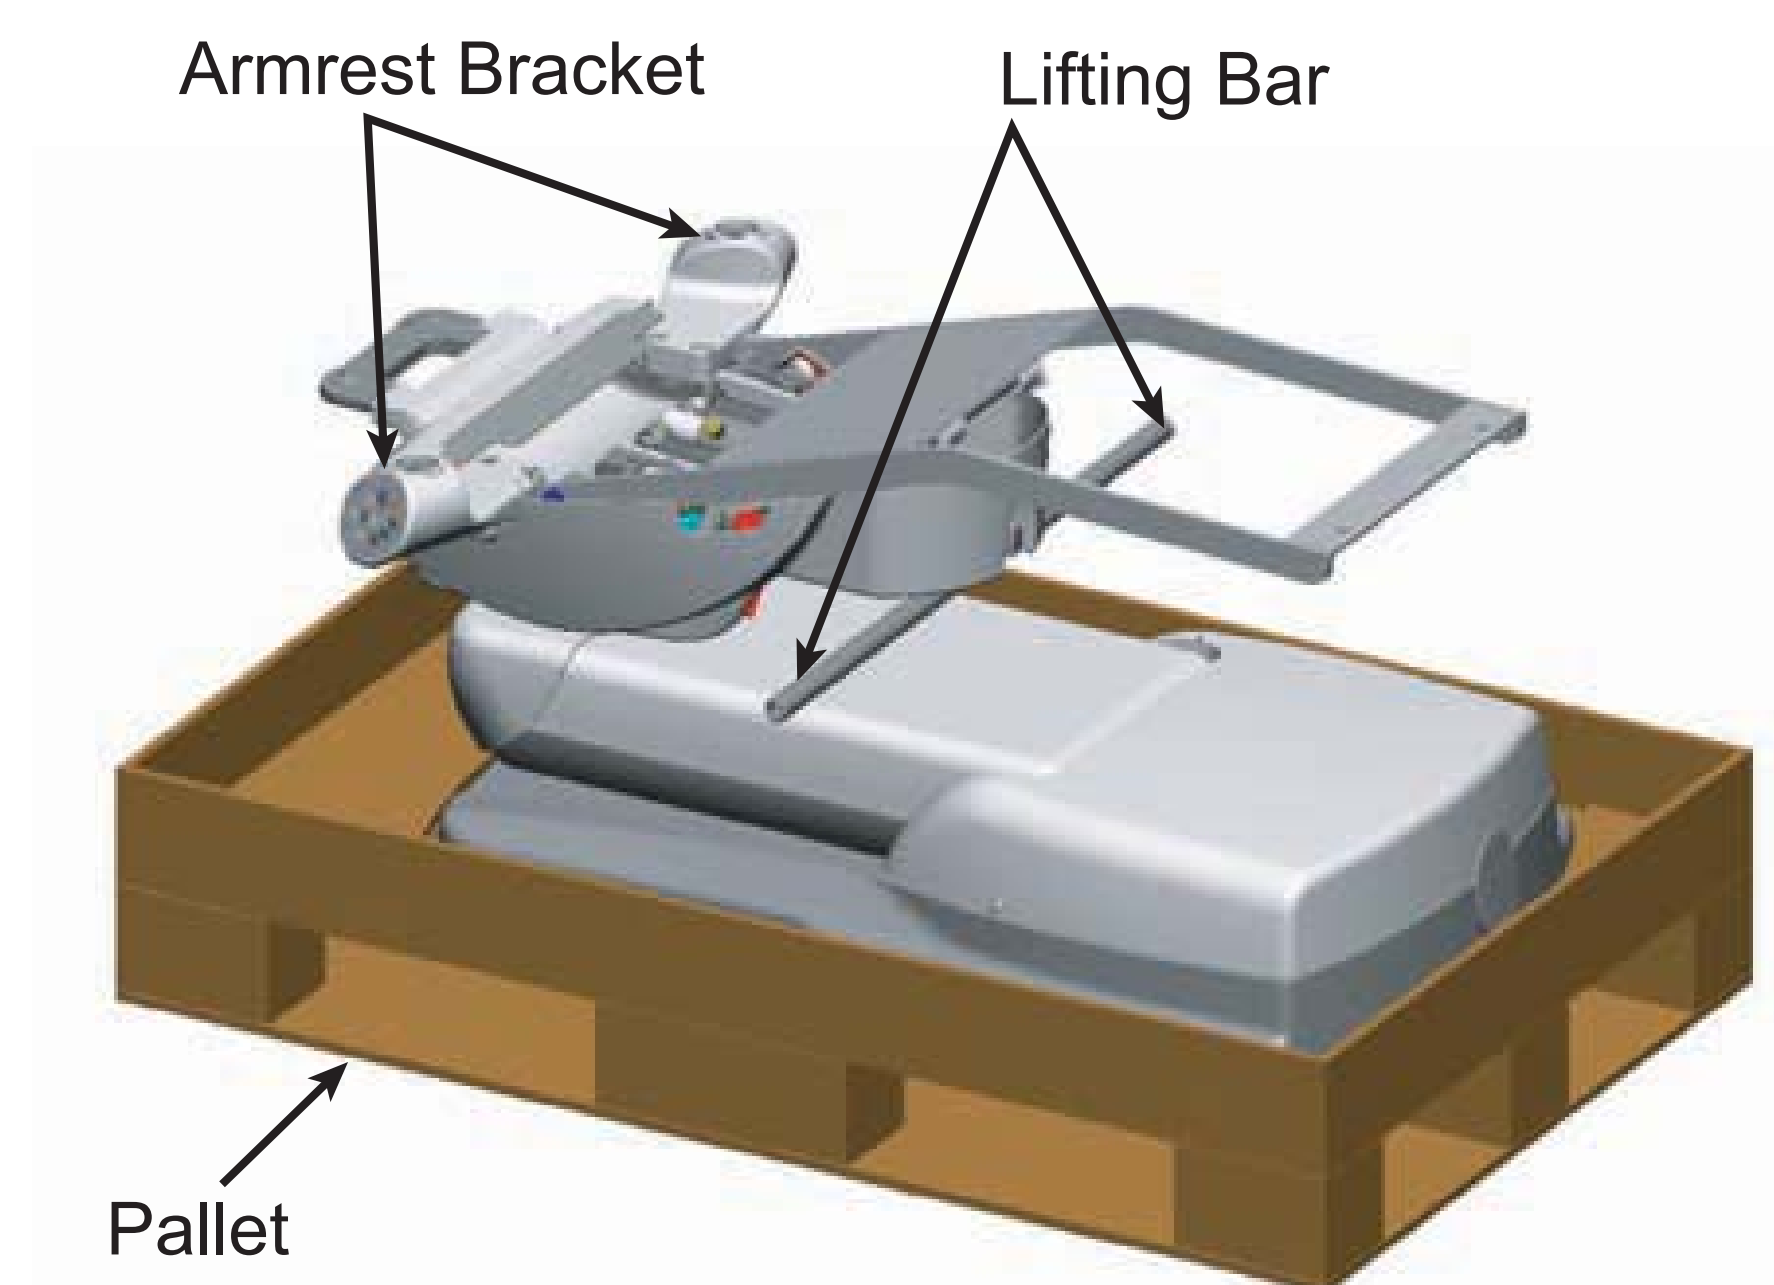

Fig. 5-1
1. Remove the Chair Base Section from the pallet by holding the Armrest Bracket and Lifting Bar and place it at the planned location. (Fig. 5-1)